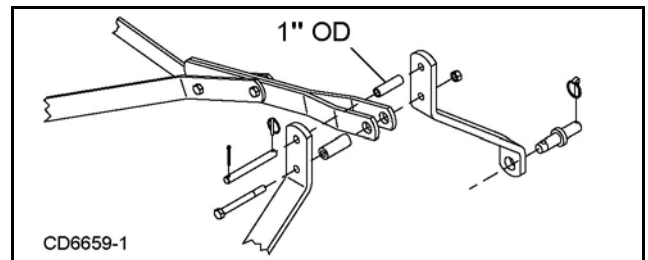

Figure 2. DS96 Cat. 2 Standard Hitch Connection
2. Connect the tractor top link to the cutter A-frame using the upper holes and 1" OD sleeve. The break link must be placed in the lower holes of the A-frame. See Figure 2.